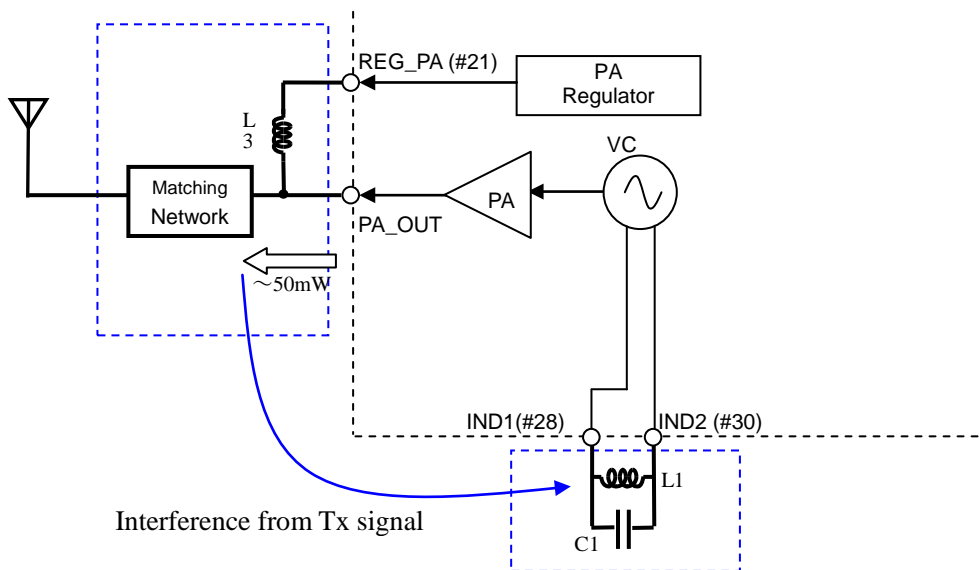

Figure 4.2.1 Notes on the VCO tank circuit
2. ML7404 maximum output power is more than50mW. As shown in the Figure 4.2.1, high output will flow on the transmission path from PA\_OUT (#20) pin. If this output affects on VCO tank circuit, it may cause the PLL unlock. So be careful the followings: